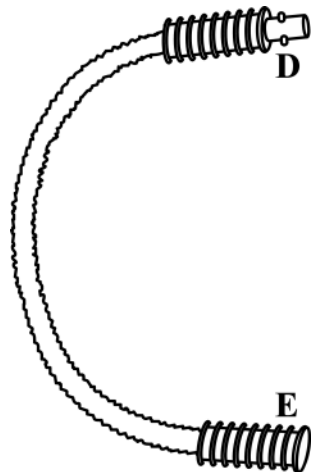

Figure 4
The *Extension Hose* (see Figure 4) of your Handheld Steam Cleaner is designed to extend the reach of the unit. One end (D) can be inserted into the steam cleaner using steps 1 and 2 above.